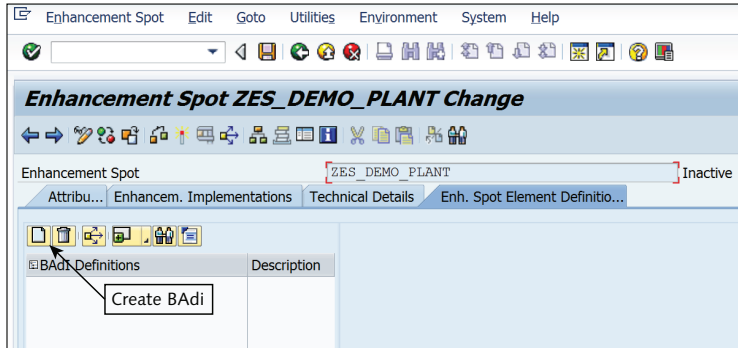

Figure 20.31 Create BAdI
1. Under the ENH. SPOT ELEMENT DEFINITION tab, as shown in Figure 20.31, click the CREATE BAdI button.